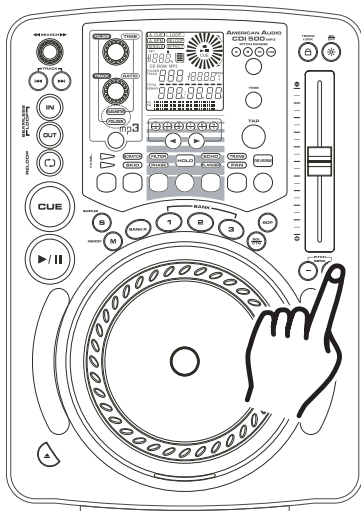

Figure 42
The (+) PITCH BEND BUTTON (11) will increase track playback speed and the (-) PITCH BEND BUTTON (11) will decrease track playback speed. The extent to which the speed changes is proportionate to the amount of time the button is pressed. For example, if the (+) PITCH BEND BUTTON (11) is held down continuously as in figure 42, the disc speed will increase and will continue to increase until it reaches a maximum of 100% speed gain. When you release the (+) PITCH BEND BUTTON (11) the disc speed will automatically return to it's previous set speed.